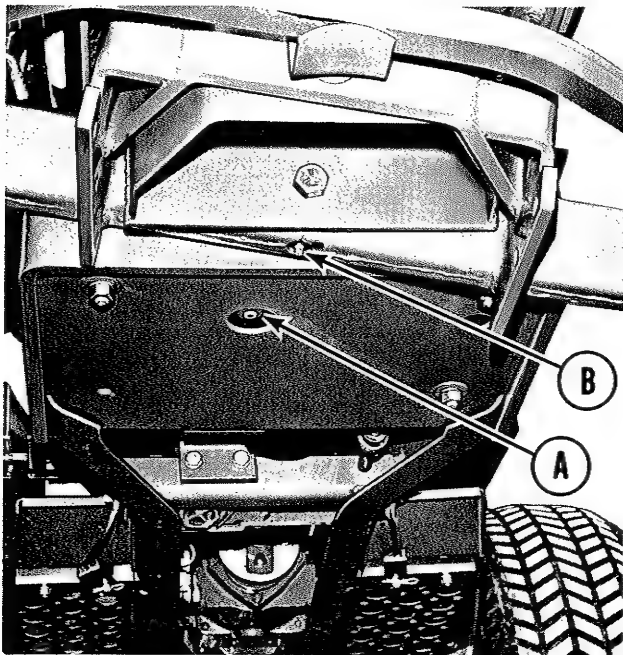

Figure 26. Engine oil drain plug and axle grease zerk under front of tractor.
LUBRICATE GREASE FITTINGS: The basic tractor has three grease fittings which require lubrication. One is located on each of the two front wheel spindles (Figure 37, item H) and one is on the front axle pivot (Figure 26, item B). There are two grease fittings on the optional 3-point hitch (Figure 53, item D). Lubricate each grease fittings with 5 shots of general purpose automotive grease every 50 operating hours. When operating under extremely wet or dusty conditions, lubricate more often.
2. See figure 26. Remove the drain plug (A) from the bottom of the engine base and allow the oil to drain.